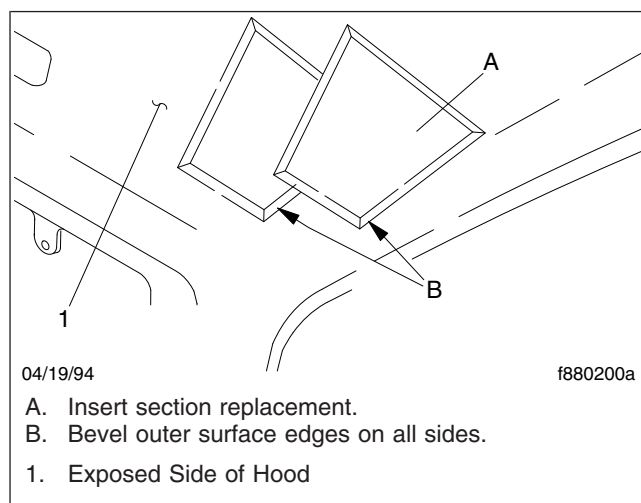

Fig. 8, Areas to be Beveled
9. On the outer sides of both the cutout and the section replacement, bevel the edges about 45 degrees. See Fig. 8.